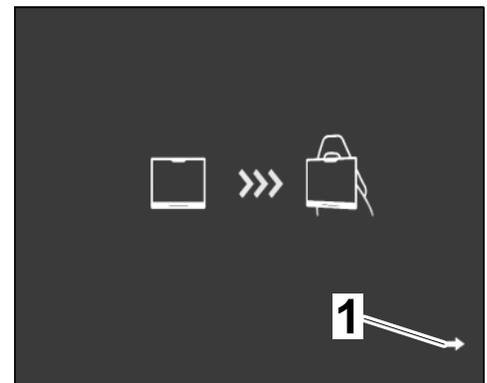

Figure 9
- 4.6.1 Switch ignition off and then on again. Wait until the following display ⇒ *Figure 9* is visible.